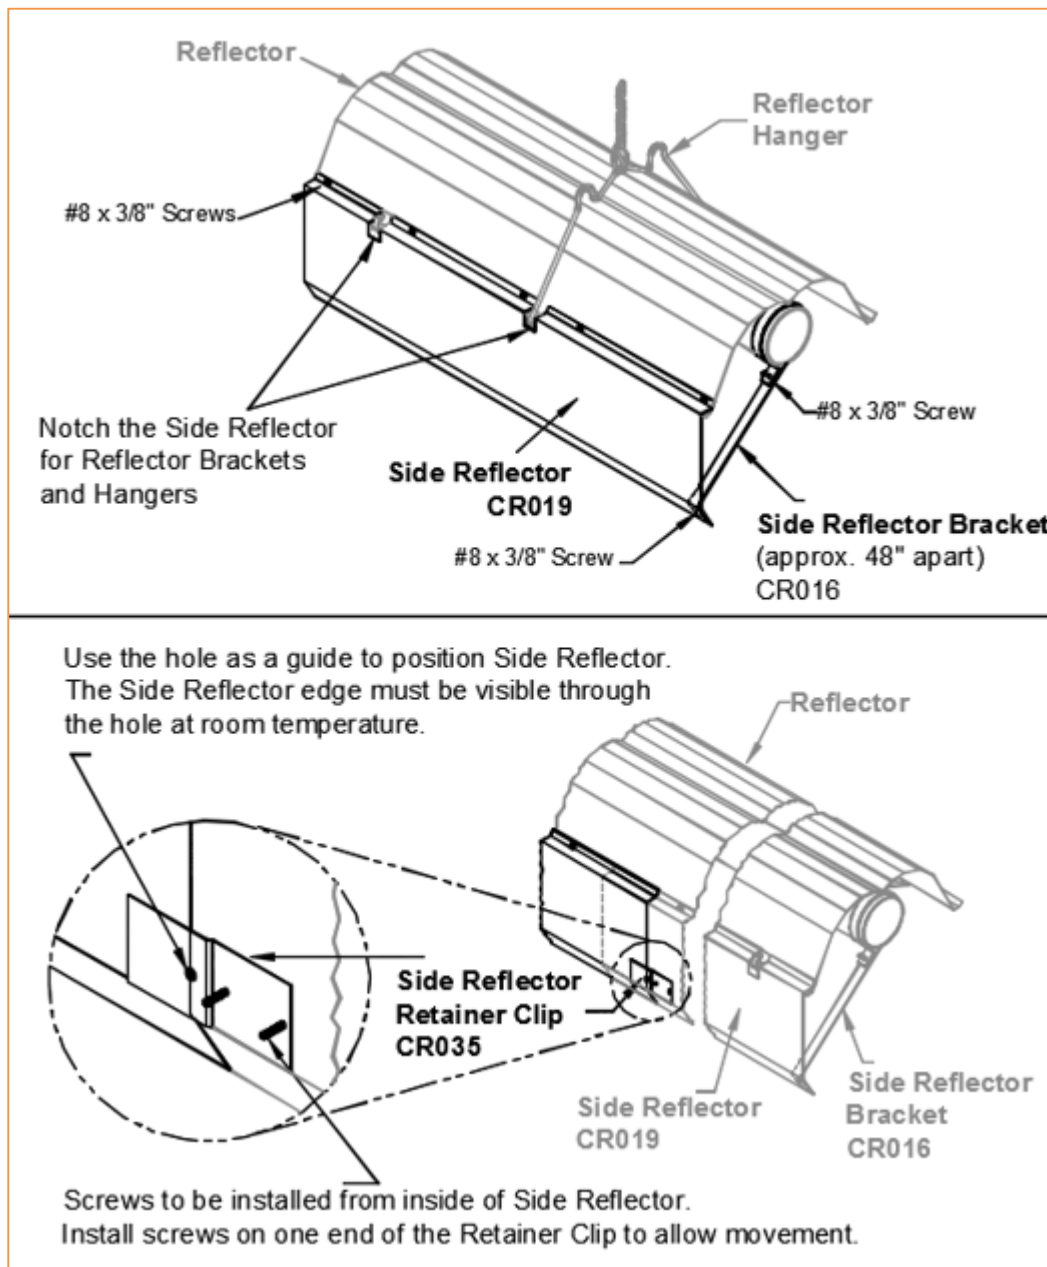

Figure 27: Side Reflector Installation Detail
Side Reflectors are 124" (3.15 m) long. Fasten one Side Reflector per main Reflector tightly with #8 x 3/8" screws spaced about 18" (0.5 m) apart. Install three (3) Side Reflector Brackets per Side Reflector, spaced about 48" (1.2 m) apart, using #8 x 3/8" screws. DO NOT install brackets where Reflectors overlap. Refer to Figure 27 for details.